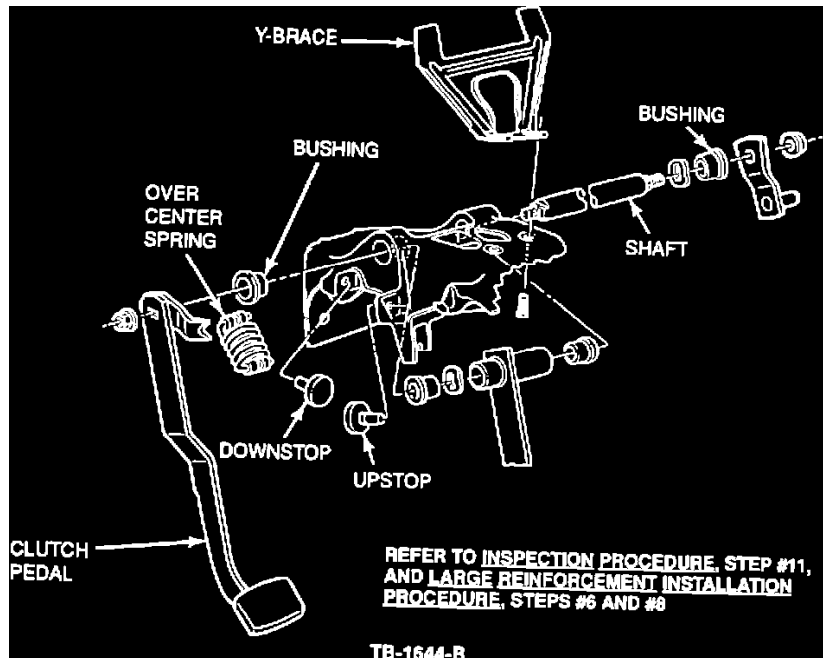

Figure 4
- c. Loosen the two (2) fasteners attaching the brake and clutch pedal support to the Y-brace, Figure 4.